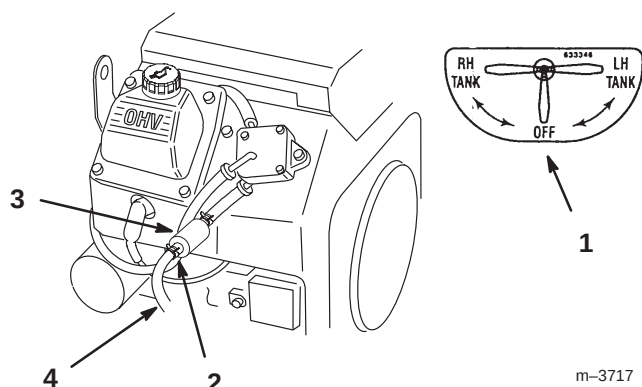

Figure 30
2. Close fuel shut-off valve (Fig. 30).
3. Loosen the hose clamp at the fuel filter and slide it up the fuel line away from the fuel filter (Fig. 30).
4. Pull the fuel line off fuel filter (Fig. 30). Open fuel shut-off valve and allow gasoline to drain into a gas can or drain pan.
5. Install the fuel line onto the fuel filter. Slide the hose clamp close to the fuel filter to secure the fuel line (Fig. 30).